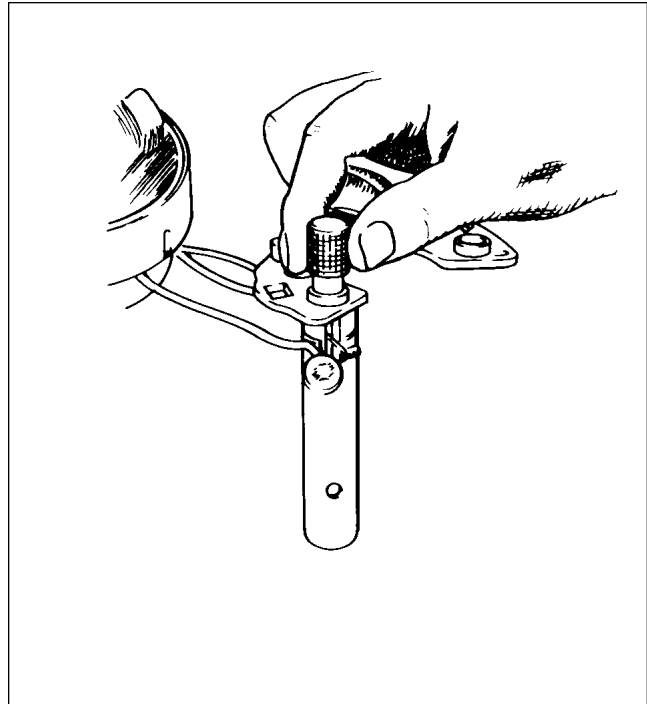

Figure 24-45. Removal of Rectifier
- d. Remove nuts, lock washers, flat washers, and insulators from output and auxiliary terminal studs. (Note carefully the correct assembly of insulator washers and bushings.) Using special tools shown in Figure 24-45, support end head and press out three negative rectifiers. End head can now be separated from stator assembly.